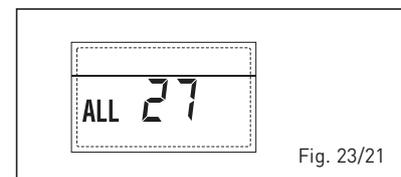

Fig. 23/21
- **ANOMALIE COHERENCE ENTREE (S3) SEULEMENT POUR SYSTEME 7 "ALL 28"** (fig. 23/22)